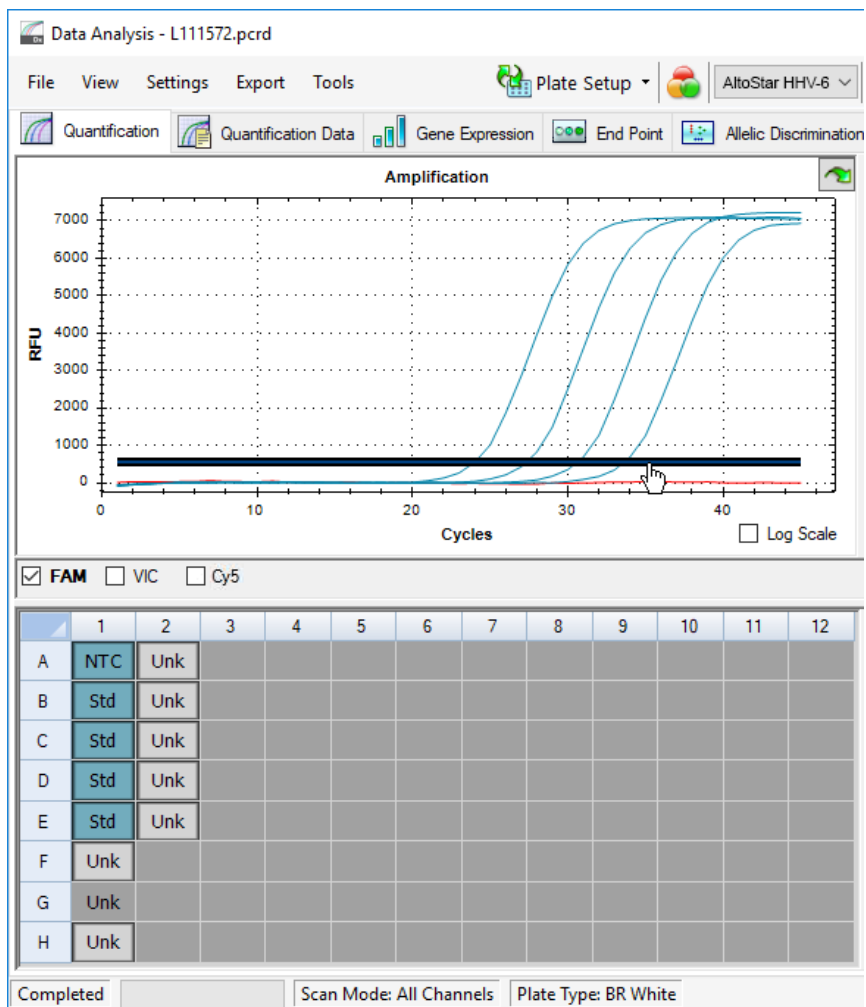

Figure 10: Data Analysis window: setting the FAM™ threshold
5. At the left side of the Data Analysis window untick the **VIC** checkbox and tick the **FAM** checkbox for the detection channel of the HHV-6A target (see figure 10).
6. Select only the wells containing the NTC and the Qs in the plate view of the Data Analysis window (see figure 10).
7. Drag the threshold well above the signal of the NTC into the exponential area of the Qs signals (see figure 10).
8. For the detection channel of the HHV-6B target untick the **FAM** checkbox at the left side of the Data Analysis window and tick the **Cy5** checkbox and repeat steps 6 and 7 (see figure 10).